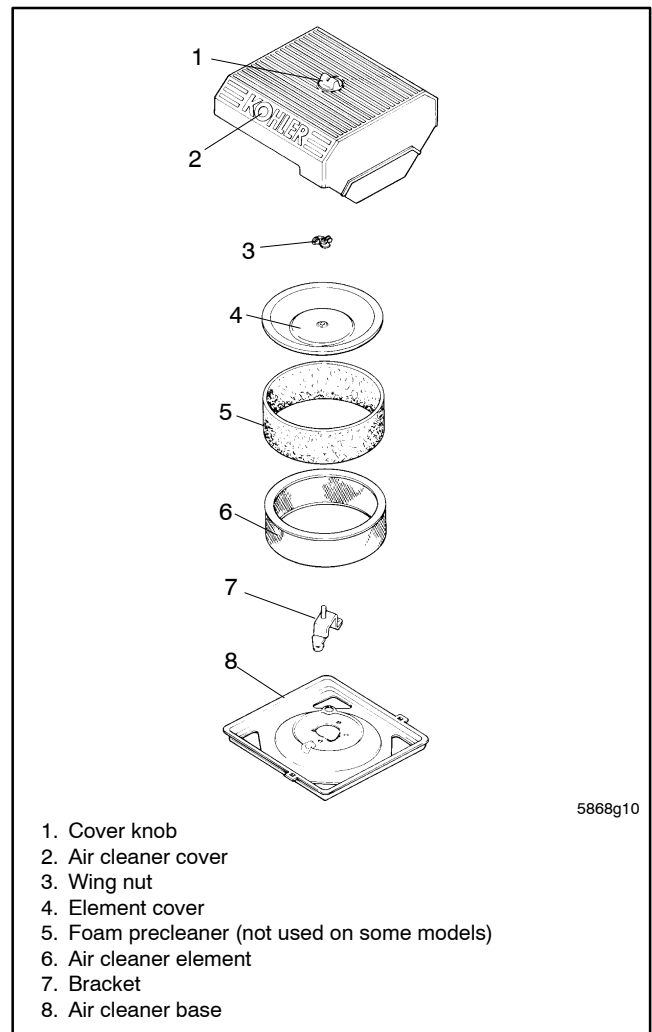

Figure 4 Air Cleaner Components
2. Remove the air cleaner assembly. See Figure 4.
- 6.4 Reinstall the air cleaner element and covers. See Figure 4.